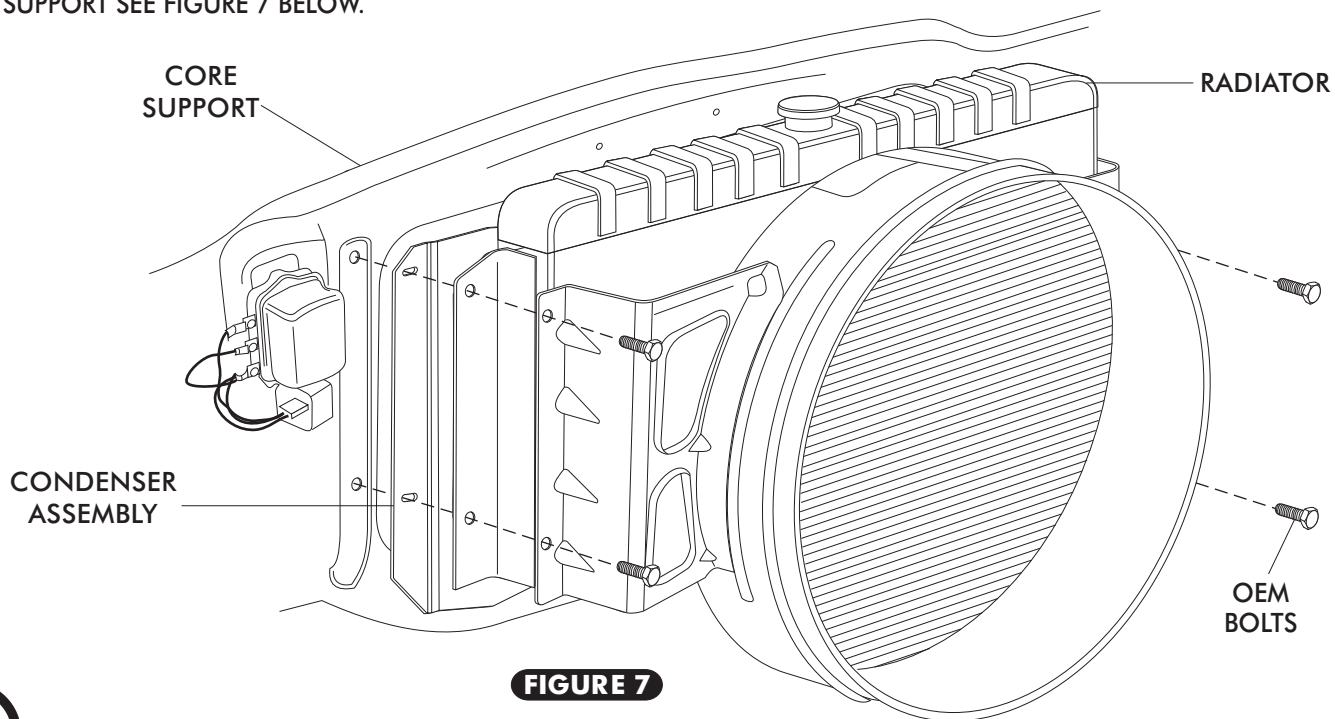

FIGURE 7
- USING THE OEM HARDWARE SECURE THE CONDENSER ASSEMBLY BETWEEN THE RADIATOR AND THE CORE SUPPORT SEE FIGURE 7 BELOW.